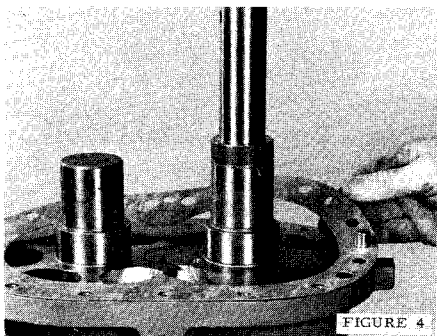

FIGURE 4
4. Be sure there are no burrs on the drive shaft or keyway to damage the seal. Loosen the set screws in the seal body and slide the seal from the shaft. Protect the carbon face of the seal if it is to be reused. Remove the outer (bearing) retainer ring from the shaft and pull the small ball bearing, Figure 4. Remove the inner (gear) retaining ring. Pull or
4. Lay the fiber gasket on the face of the cylinder – make sure the contour of the gasket matches the cylinder, Figure 4.